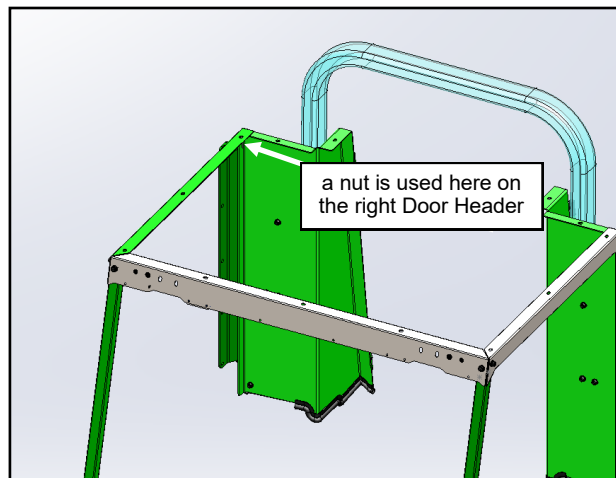

Fig. 8.2 (Install right Door Header)
8.2 Per fig. 8.2, install the right Door Header, oriented with the square cut end towards the rear of the vehicle. Leave both bolts loose.